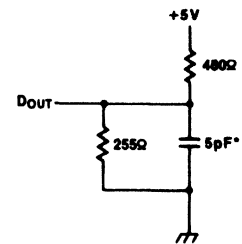

Figure 2. Output Load (for  $t_{H2}$ ,  $t_{L2}$ ,  $t_{w2}$ , and  $t_{ow}$ )
- Transition is measured  $\pm 500\text{mV}$  from steady state voltage with specified loading in Figure 2. This parameter is sampled, not 100% tested.
4. Transition is measured  $\pm 200\text{mV}$  from steady state voltage with specified loading in Figure 2. This parameter is sampled and not 100% tested.